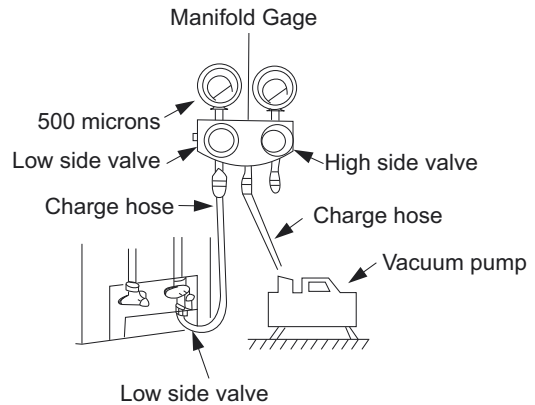

Fig. 20 — Manifold
3. Open (fully) the low side of the manifold gage (see Fig. 20).